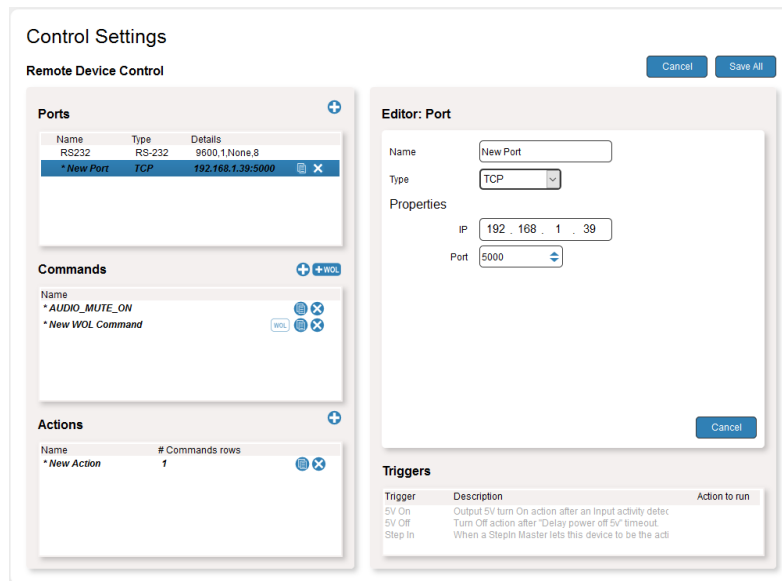

Figure 2: Configuring an Ethernet Port
- For Ethernet select Type TCP/UDP, IP address and port number (Figure 2).
1. In the Ports section, click a port. The port information is displayed in the Editor (Figure 2).